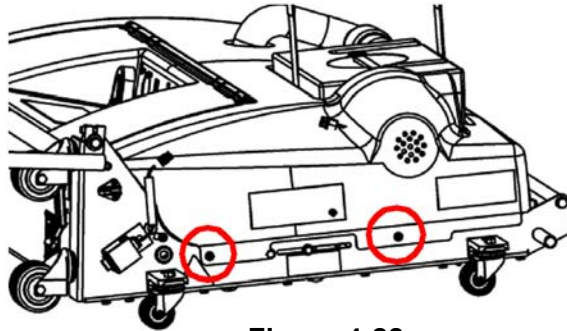

Figure 4-28
1. Unlatch the oil compartment door latches, disconnect the vacuum hose and remove the waste tank, remove the cap from the cleaner tank, remove the two screws from each side of the hood (see Figure 4-28), and lift the hood from the frame. Set the screws aside.